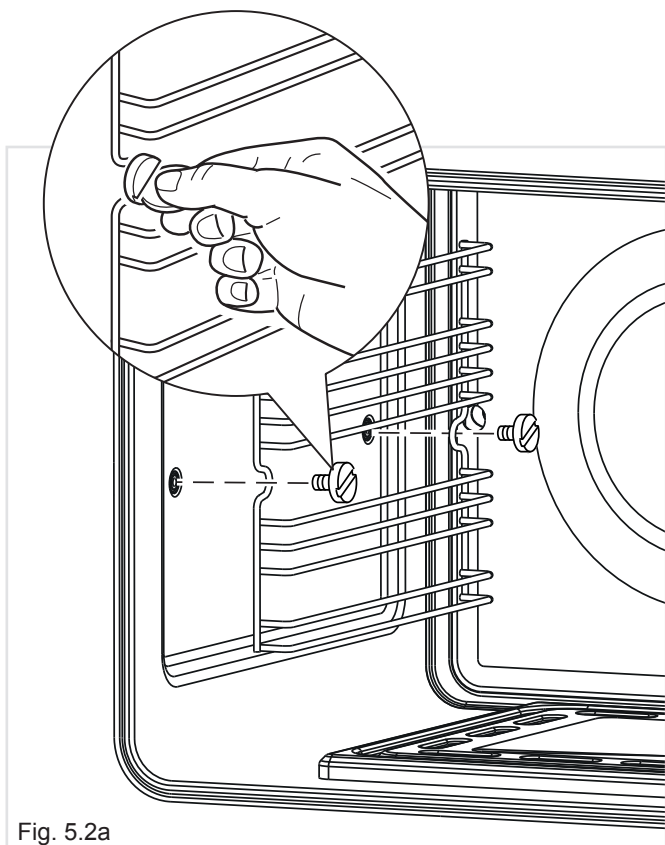

Fig. 5.2a
- Assemble the wire racks to the oven walls using the 2 screws (fig. 5.2a).
- Screw the side racks onto the oven wall (fig. 5.2a).
- Remove the side racks by unscrewing the fixing screws (fig. 5.2a).